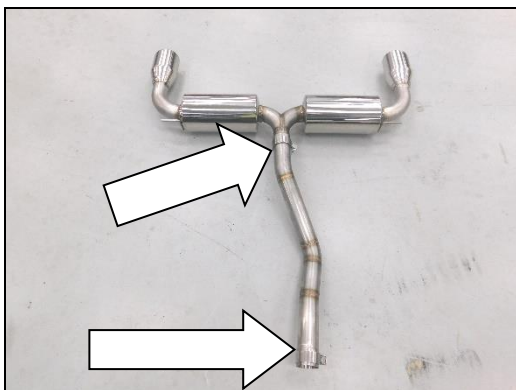
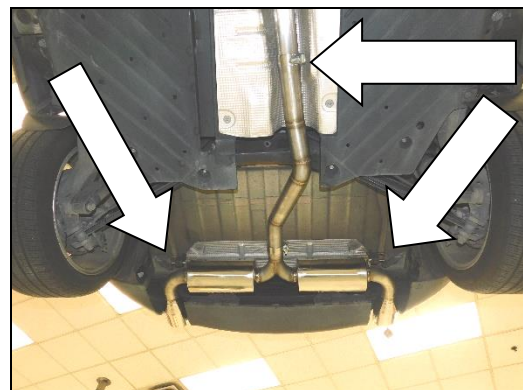

Figure 9
Figure 10
- Slide on the (x2) supplied 2 1/2" band clamps and install the Blackheart mid pipe to the Blackheart muffler (**Figure 9**). Now, install the Blackheart muffler and Blackheart mid pipe to the Blackheart front pipe. Slide (x2) hangers in to the OE rubber isolators (**Figure 10**).